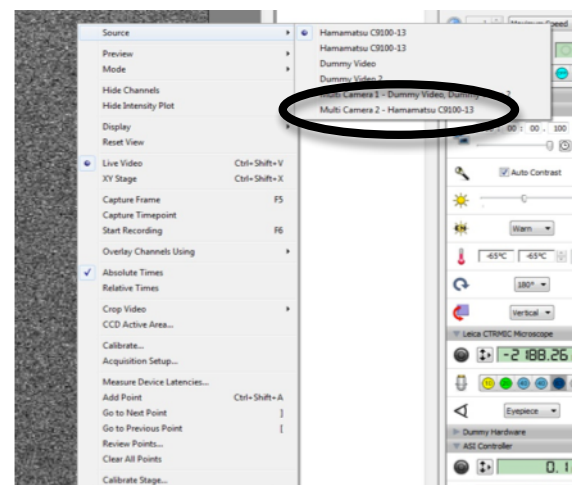

Fig 11: Selecting Multi-Camera mode
4. Right click in preview window, click on 'Source' (Fig 11), select '**Multi Camera – Hamamatsu...**'; (when going back to single mode, select the upper one)